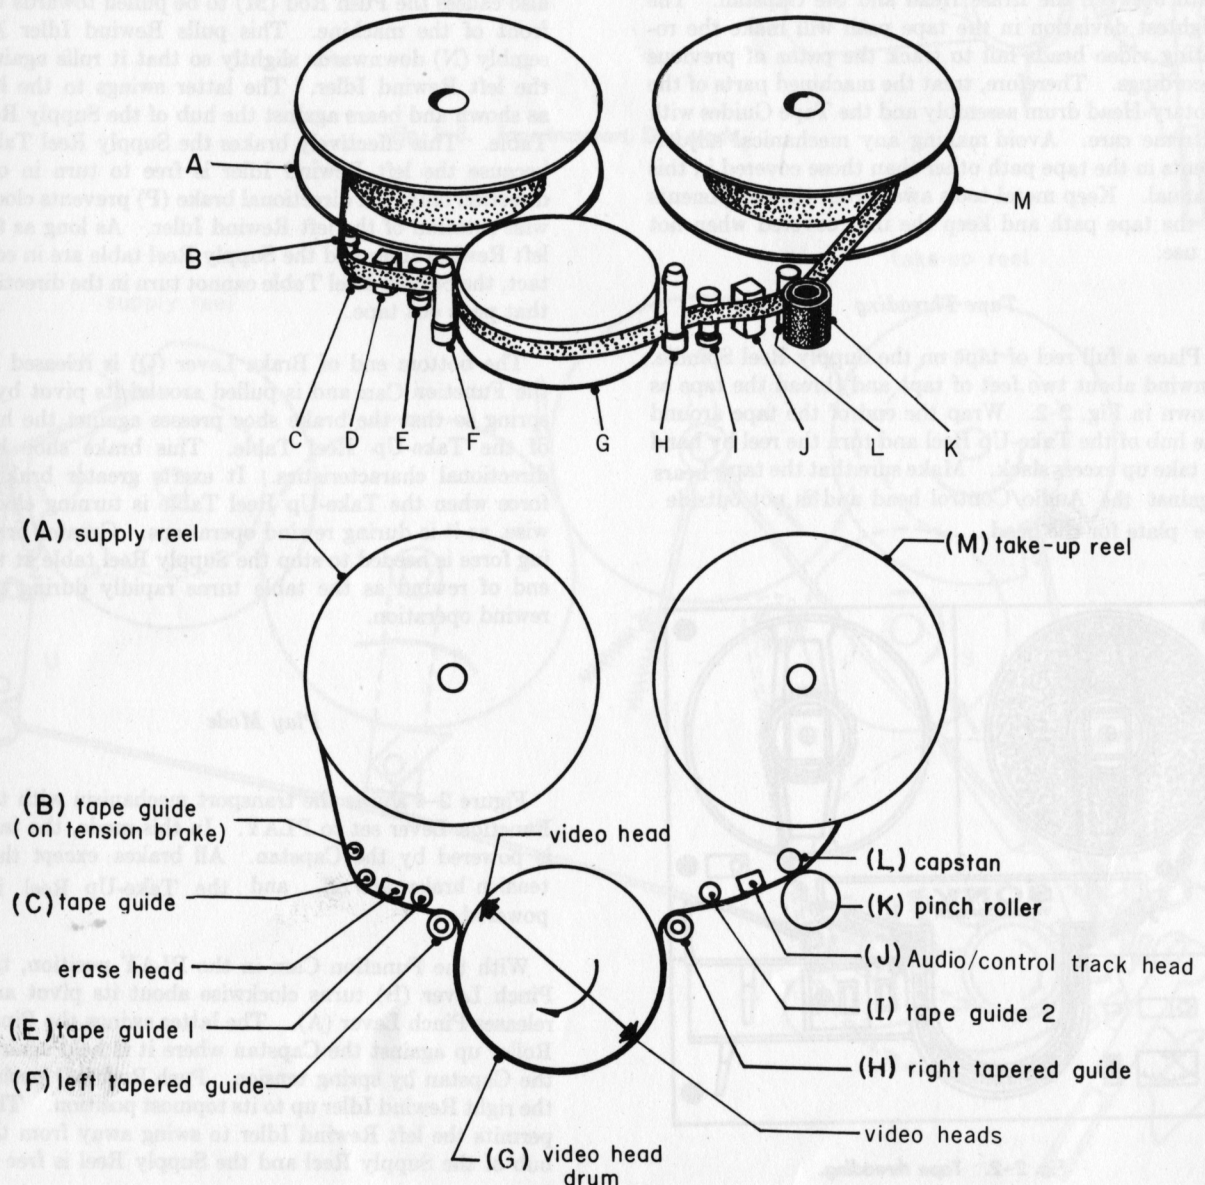

Fig. 2-1. Tape path.
Figure 2-1 shows the path taken by the tape as it moves from the supply reel to the take-up reel. Tape passes the Tension-Brake Tape Guide (B) first. The tension-brake guide senses tape tension and acts to apply braking pressure to the Supply-Reel Table to keep a uniform back tension on the tape. After the Tension-Brake Tape Guide (B), the tape runs past